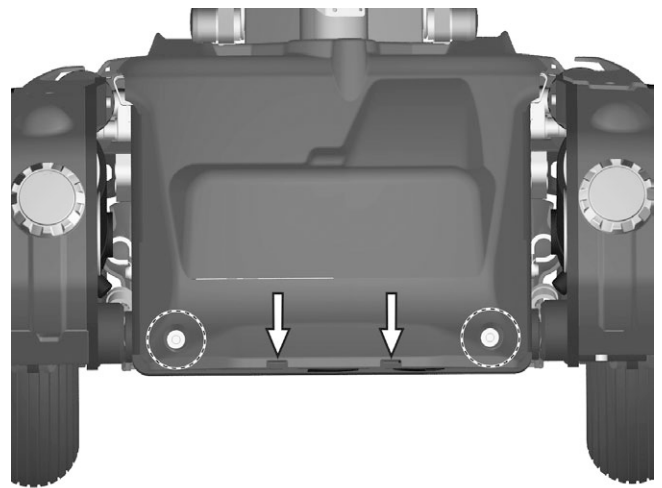

Figure 11. The chassis front cover is assembled partially inside the chassis at the lower edge.
5. Assemble the front chassis cover on to the chassis. See fig. 11. Note that the cover is assembled partially inside the chassis at the lower edge. Position the cover making sure the fixing points are correctly positioned with the screw heads in corresponding holes of the cover.